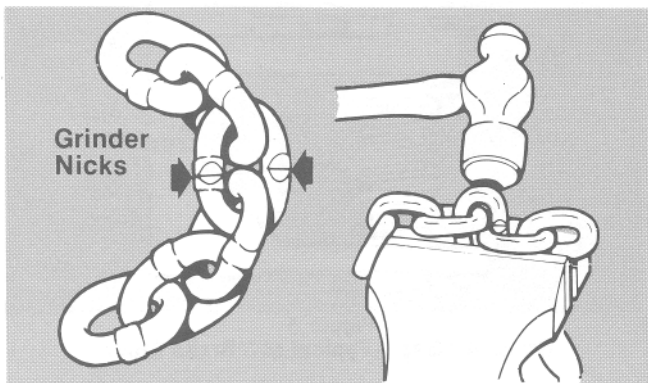

Figure 4. Cutting Chain by Nicking
2. Use a grinder and nick the link on both sides (Figure 4). Then secure the link in a vise and break off with a hammer.